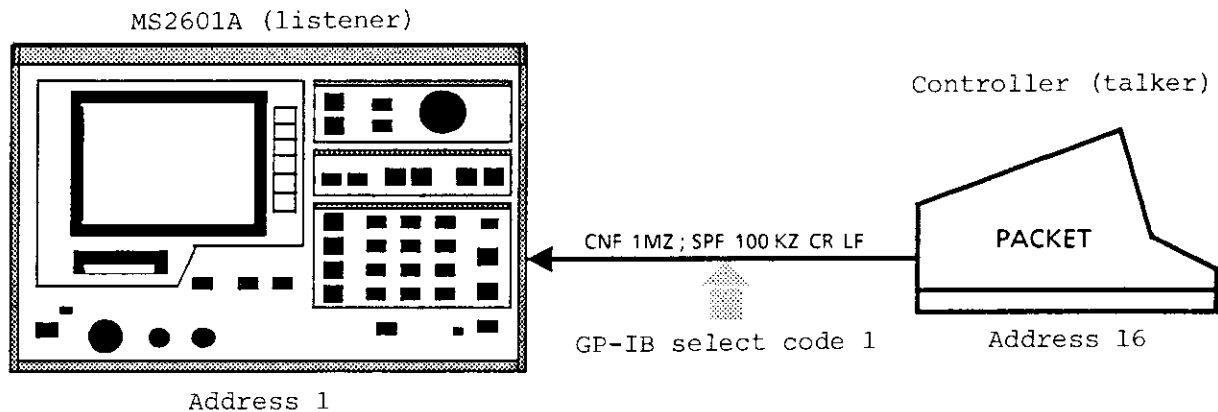

Fig. 10-1 Device Data Transfer
To set the CF of the MS2601A to 1 MHz and its SPAN to 100 kHz by using the Packet Personal Technical Computer as a controller, use a WRITE@ statement as shown in Fig. 10-1. (The following explanations assume that the interface select code is 1 and the MS2601A address is also 1 unless otherwise specified.)
In Fig. 10-1, the right half of the WRITE@ statement (separated by a colon [:]) is the device message zone. The device message characteristics are as follows:
3. A single-line message is terminated by a CR LF code. (The CR LF at the end of the transferred data shown in Fig. 10-1 is automatically added by the WRITE@ statement.)
For the two messages in Fig. 10-1 (CNF 1MZ and SPF 100 KZ), the header of each message is an upper-case alphabetic character string that determines what is to be set. When numeric data follows this character string, it determines how the data is to be used.